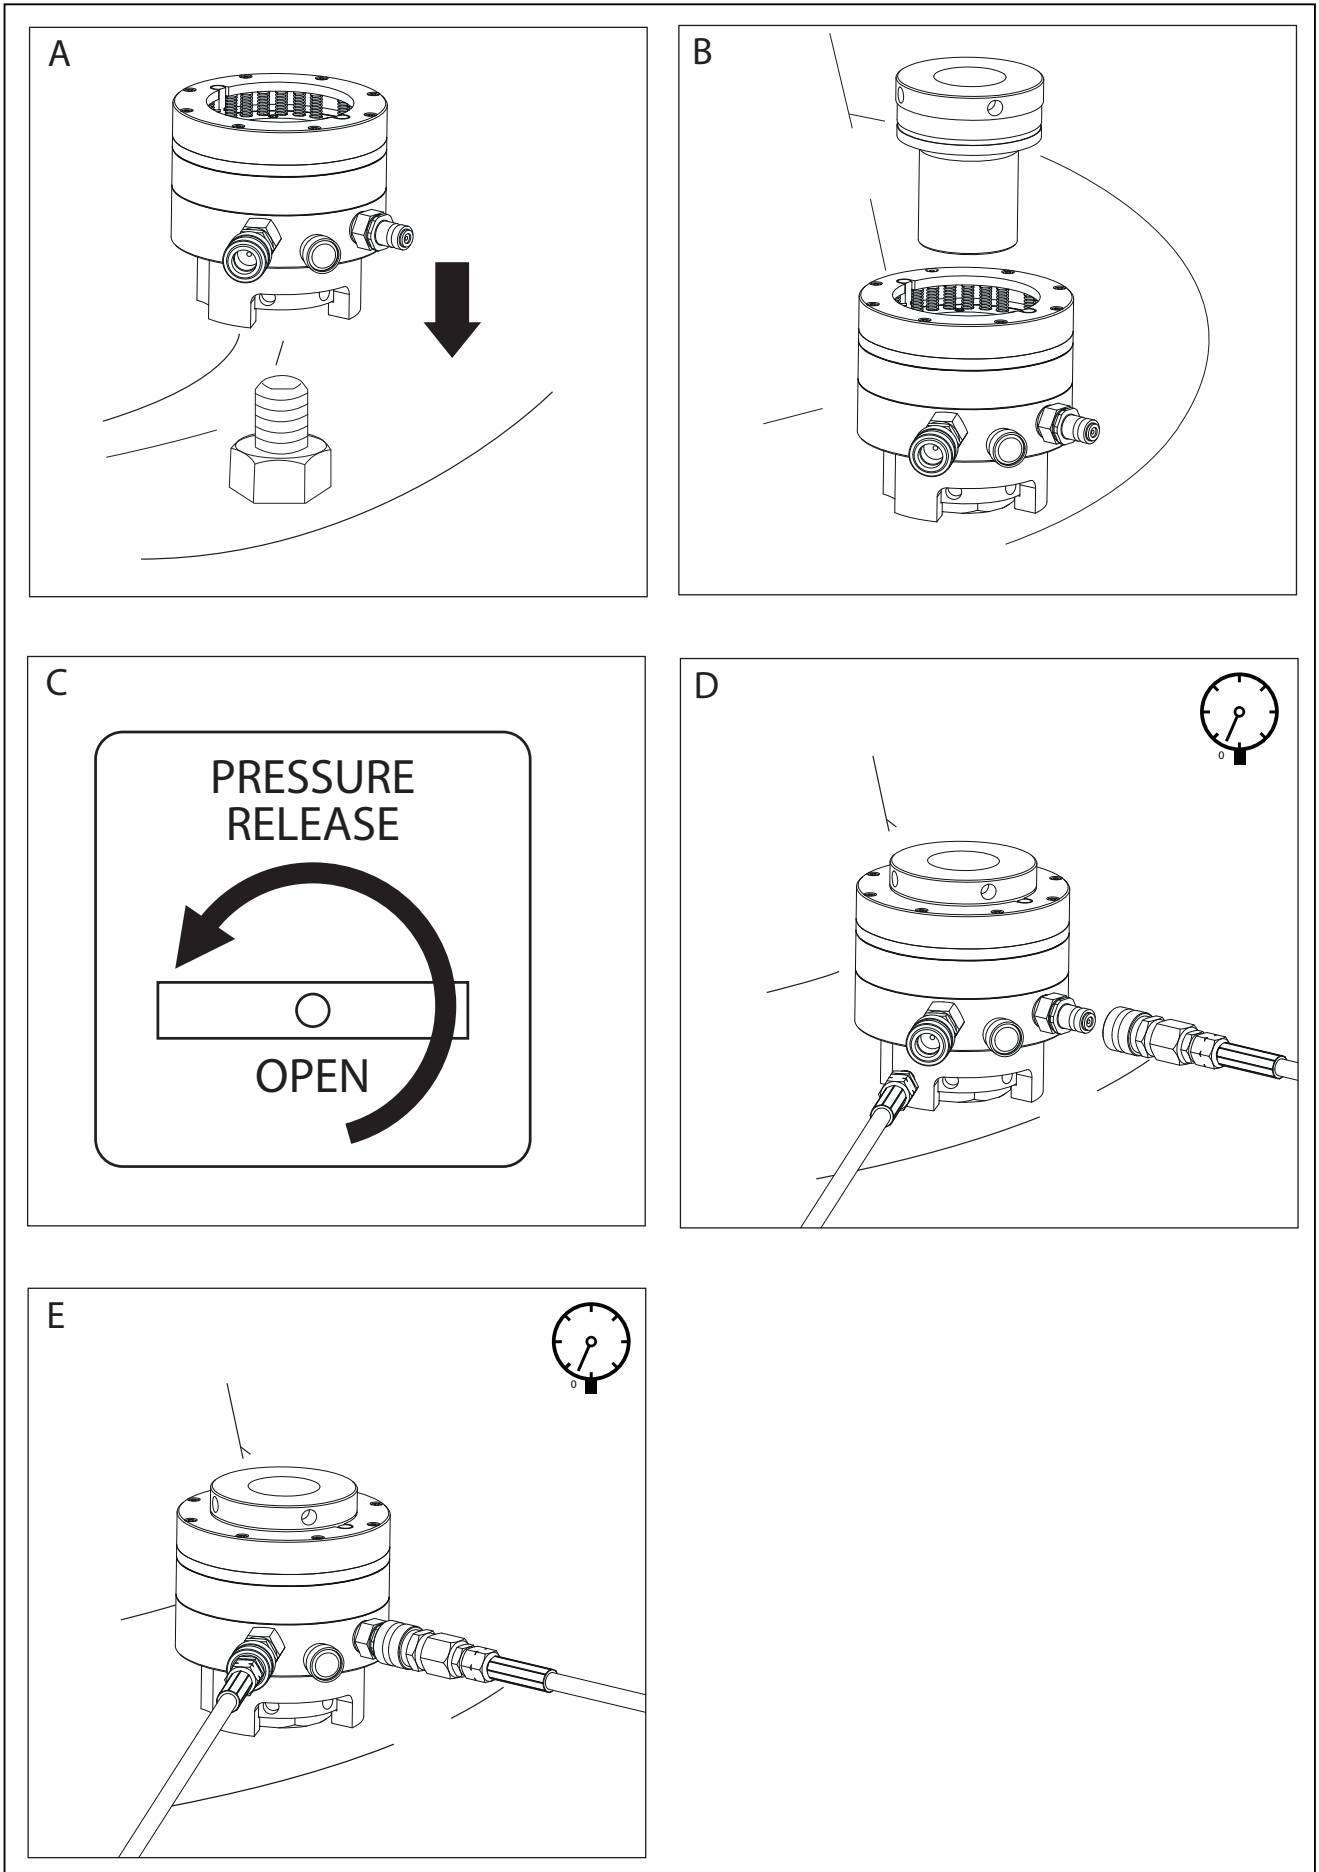

FIGURE 5, HYDRAULIC TENSIONER INSTALLATION
4. Place the tensioner over the stud, ensuring that the socket fits over the nut without force. See Figure 5, View A.
5. Locate the end of the stud with the threaded puller. Using a tommy bar, screw down the threaded puller on the stud until the puller shoulder seats firmly against the piston. See Figure 5, View B.
7. Check that the pump pressure release valve is OPEN. See Figure 5, View C.
8. Connect hydraulic hoses to the tensioners. See Figure 5, views D and E. Also refer to Section 6.3 for typical hose connection arrangements.